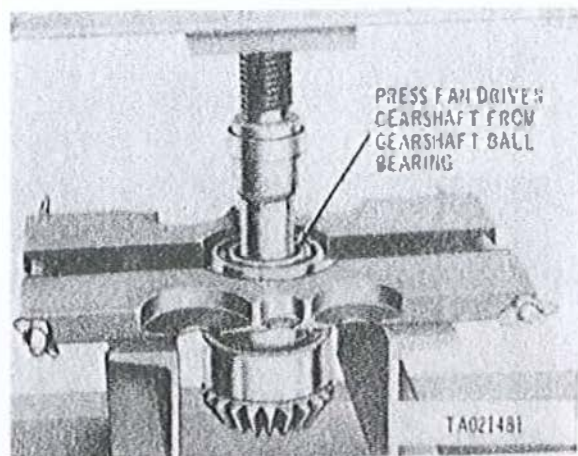

Figure 3-218. Pressing fan driven gearshaft from upper gearshaft ball bearing.
(8) Remove retaining ring (10) securing gearshaft bearing (11) on fan driven bevel gearshaft (15). Press fan driven gearshaft from gearshaft ball bearing (fig. 3-218) and remove spacer (12, fig. 3-216) and press fan driven gearshaft (fig. 3-219) from gearshaft inner ball bearing (13, fig. 3-216). Remove and retain shims (14, fig. 3-216), positioned between gearshaft and ball bearing for assembly.